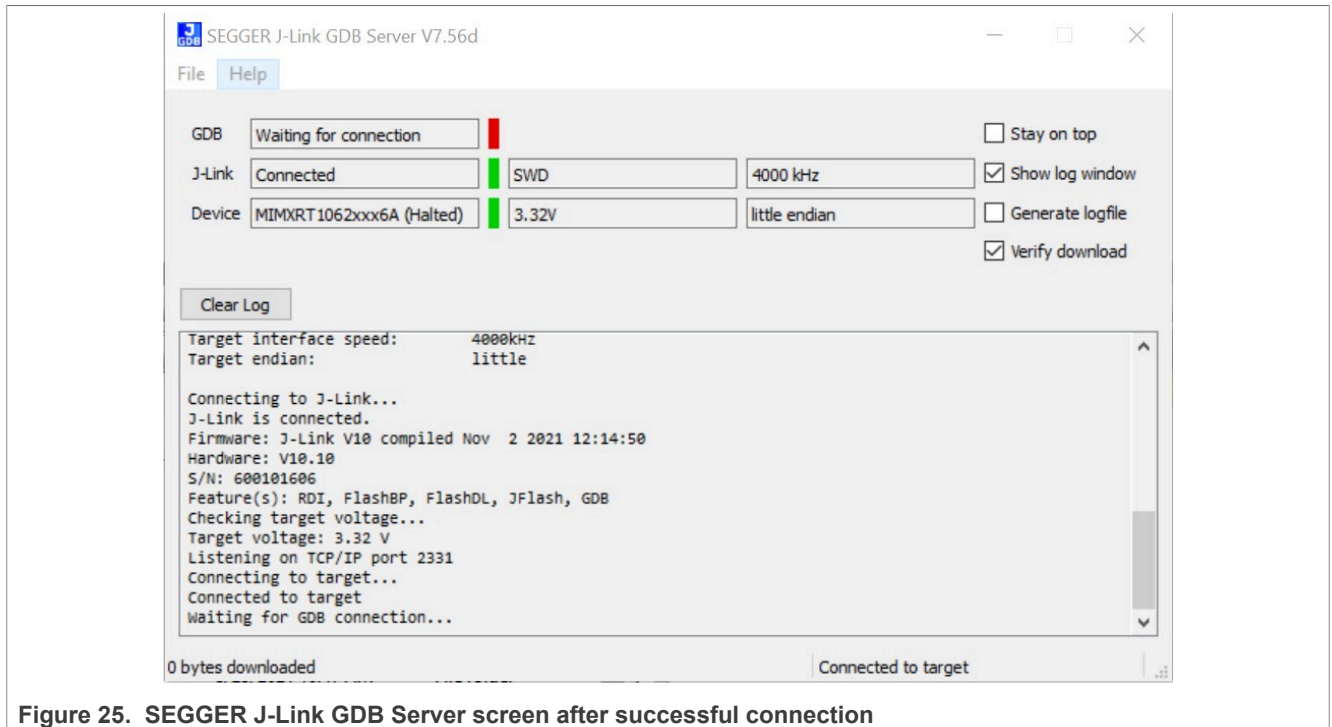

Figure 25. SEGGER J-Link GDB Server screen after successful connection
6. After it is connected, the screen should resemble Figure 25.